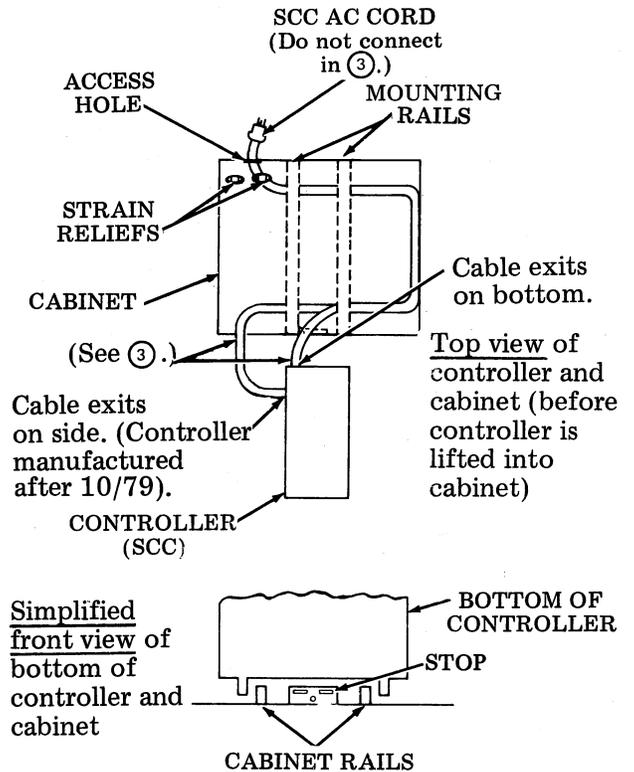

Fig. 19
- ③ With power cord and data set cable uncoiled, place controller in front of cabinet. See Fig. 19. If SCC ac cord exits below SCC, route cable down between the two mounting rails, then to the right side of the cabinet. If SCC ac cord exits on left of SCC, route cord down to the left of the mounting rails and then to the right side of the cabinet. Route ac cord from right side of cabinet to left side, then out access hole in rear of cabinet. The cabinet is furnished with a plastic grommet which must be installed if the knock-out on the left side of the cabinet is removed.
- ④ Lift rear of SCC into cabinet past stop on cabinet front so that SCC straddles the rails. (See Fig. 19.) Lower SCC to cabinet. Raise front of SCC and push halfway into cabinet.
- ⑥ Connect ac cord (see Fig. 19) to 115 Vac source.